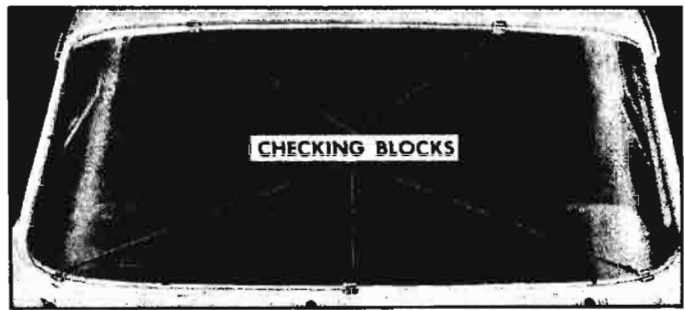

Fig. 10-33—Windshield Checking Blocks J-8372 Installed
4. Install five (5) windshield checking blocks J-8372, as shown in Figure 10-33, to pinch-weld flange at following locations. Position one (1) block over lower pinch-weld flange just inboard of compartment lid opening on each side of body. Position final block on lower pinch-weld flange in center of windshield opening. Position one (1) block over upper pinch-weld flange midway between center block and each outboard block on lower retaining flange.